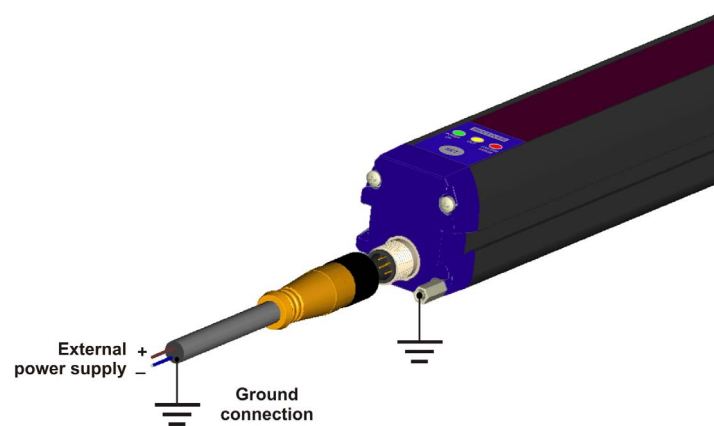

Fig. 5
-  Shielded cables are not foreseen in the standard connection. However, if necessary, these cables can be used; in this case ground connection is necessary of both the unit and cable, as shown in Fig.5.
- Follow the connection illustrated in Fig.5 when ground connection of the entire system is used.